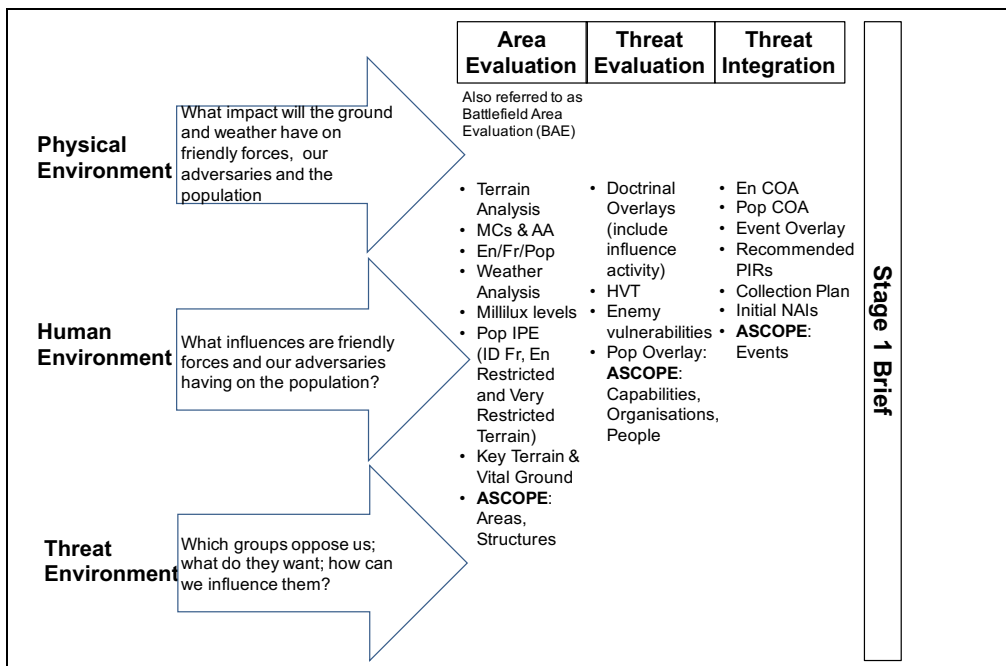

Figure 3
14. Figure 3 below outlines the process to be followed for the Stage 1 analysis. The process has 3 themes that run through 3 steps in order to fully analyse the operational environment.